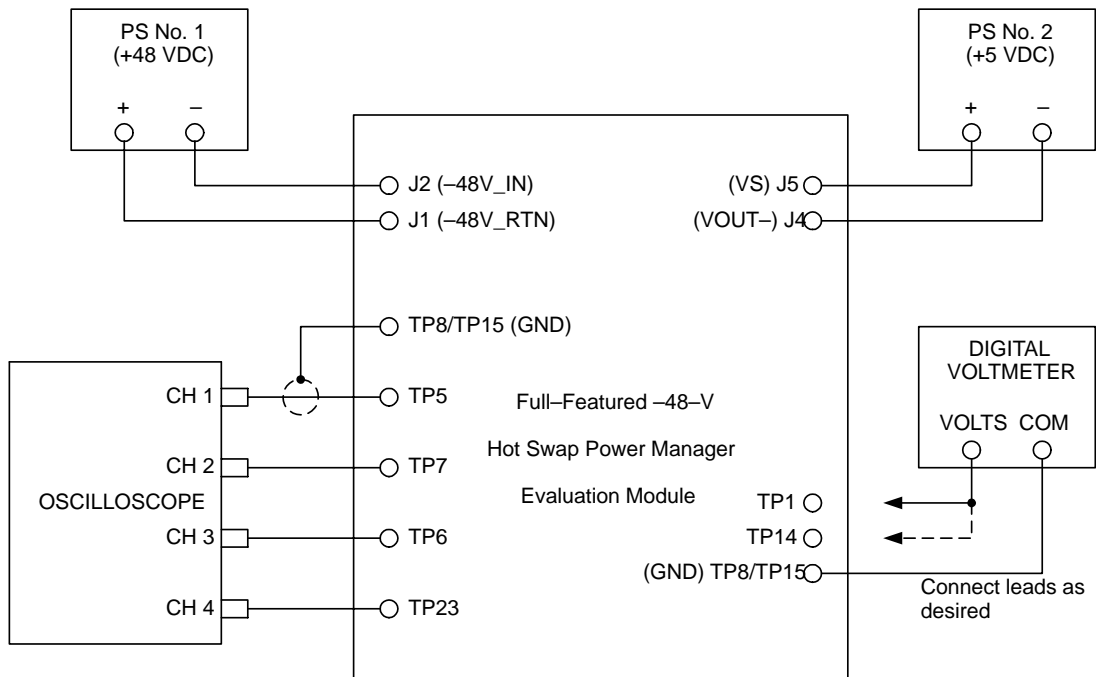

Figure 5. Full-Featured -48-V Hot Swap EVM Setup
Connect the EVM and test equipment as shown in Figure 5.
Supply connections to the EVM should be made as shown in Figure 5. The backplane, 48-V supply (power supply number 1 in Figure 5) connects to J1 and J2. The polarity of the circuit is such that the HI or (+) output of the supply connects to J1, $-48V_RTN$. The LO or (–) jack connects to J2, $-48V_IN$. PCB header J5 (VS) is used to connect an external pull-up source when using the $\overline{EN1}$ and $\overline{EN2}$ outputs of the module. This supply is referenced to the $VOUT-$ node.
The EVM can be used to get an illustration of the relationship between current limit, inrush slew rate, load values, and the circuit's fault timing requirements. With DIP switch SW1–1 only closed, the fastest of the preset slew rates is selected, and only the hard-wired timing capacitor C6 is connected to the TPS2392 or TPS2393 controller. However, this is sufficient to allow the bulk capacitor C8 to fully charge, from 0 volts, across the full range of input supply voltages, down to –80 V. This can be observed by connecting input power as shown in Figure 5, displaying the VOUT– node on an oscilloscope, and enabling the device.